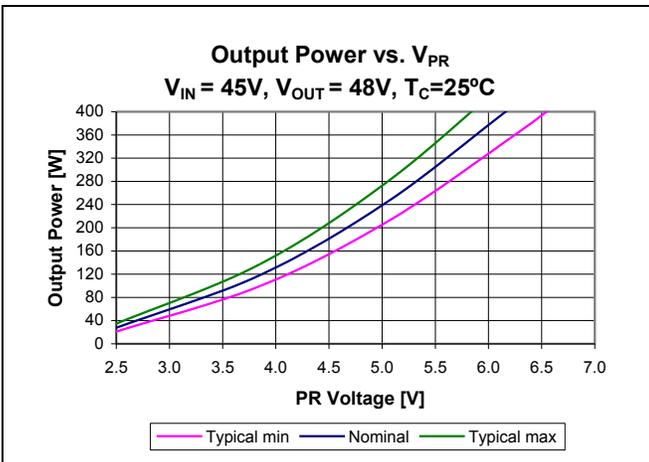

Figure 21 – Output Power vs. V_{PR} ; $V_{IN} = 45\text{ V}$, $V_{OUT} = 48\text{ V}$, $T_C = 25^\circ\text{C}$, $T_{CASE} = 25^\circ\text{C}$
Control node (PR) is the input to the control node which determines the powertrain timing and ultimately the module output power (Figure 21). An internal 0.5 mA current sink is always active. The bi-directional buffer between PR and the control node has two states. In normal operation, PR will be above the 0.79 V switching threshold, and will drive the control node through the buffer. An internal 7.4 V clamp determines the maximum output power that can be requested of the modulator.